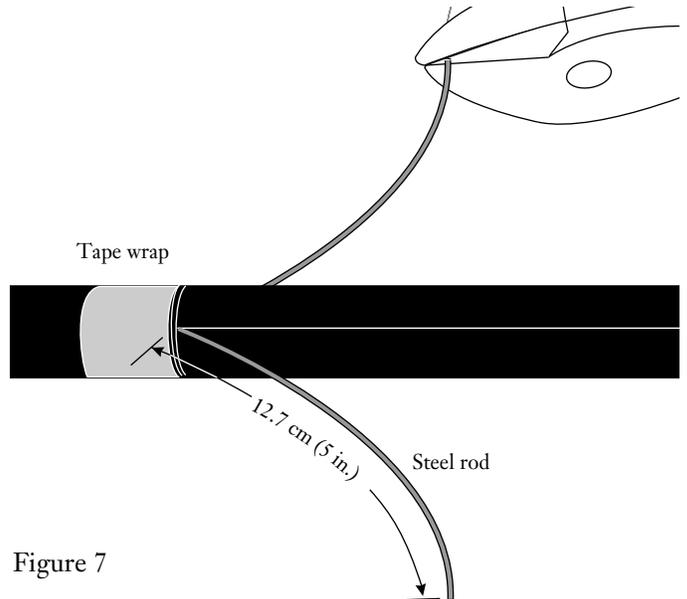

Figure 7
4.9 Use side cutters to cut the steel rods 12.7 cm (5 in.) from the tape wrap (Figure 7). Some hardware may require a greater length for proper strain relief. ALWAYS WEAR SAFETY GLASSES WHEN CUTTING THE STEEL RODS.